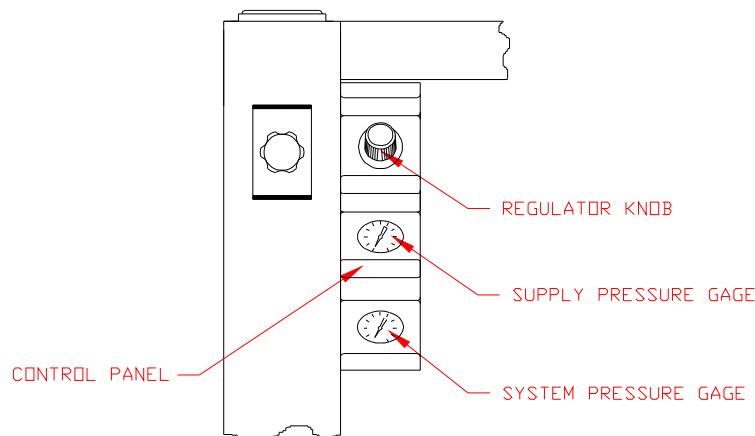

Fig. 4 9100/9200 Series Control Panel Illustration.
5. Turn on the air supply and adjust the Filter Regulator on the Control Panel clockwise for approximately 80 psi. it is advised not to exceed 80 psi supply pressure (as shown on Fig. 4).